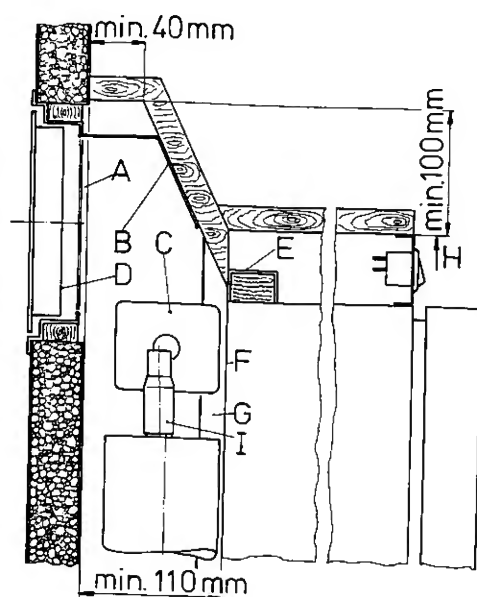
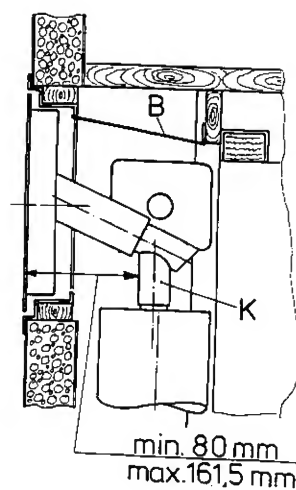

Fig. 6a
Fig. 6b
Locate the lower opening immediately above the floor of the recess, and the upper one as high as possible above the condenser (C) of the refrigeration unit, at least as shown in fig. 6b but preferably as shown in fig. 6a.